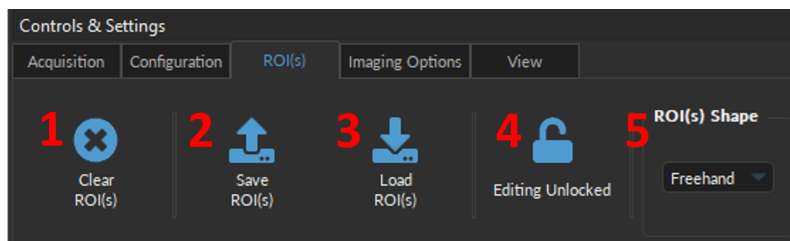

Figure 7.15: ROIs Tab
1. The **Clear ROI(s)** button (Fig. 7.15, 1) will delete all drawn regions on interest within the **Microscope View**. Note that unless the ROI(s) were previously saved, these ROI(s) cannot be recuperated.
2. The **Save ROI(s)** button (Fig. 7.15, 2) will save the region of interests drawn in the **Microscope View** in a .doric file, so that the identical ROI can be re-imported into the module at a later time. At least one ROI must be drawn for this feature to work.
3. The **Load ROI(s)** button (Fig. 7.15, 3) will import a previously saved .doric file. Note that this ROI(s) configuration can be edited, but must be re-saved in order for changes to be conserved.
4. The **Editing Unlocked** button (Fig. 7.15, 4) when enabled will prevent new ROI(s) from being drawn. However, it does not prevent moving or reshaping a selected ROI.
5. The **ROI(s) Shape** drop-down (Fig. 7.15, 5) sets the geometry of the ROI, which can be added at any point, even when not under the **ROI(s) tab** and in **Live** mode (but not when using **Record** mode). Four **ROI(s) Shapes** are available: *Freehand*, *Circle*, *Rectangle*, and *Square* (Fig. 7.16, 1-4). Multiple different shapes can be used within a single **Sensor View**.